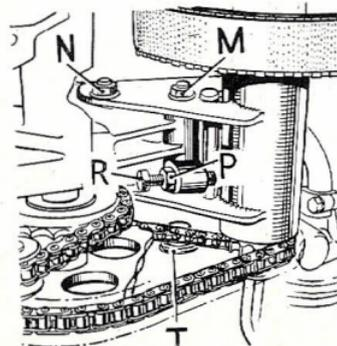

FIG. 6.
**Driving Chain:**—The slackness in the chain can be gauged with the fingers following removal of the rubber inspection cap (*T*) in the chaincase wall. To remove excessive slackness in the chain, first remove the outer chaincase cover, then slacken the pivot nut (*N*) and securing nut (*M*). Slacken the adjuster lock-nut (*P*) and then screw inwards the adjuster bolt (*R*) Fig. 6 (*i.e.*, turn clockwise). Total up and down play in the chain should be approximately  $\frac{3}{8}$ " (9.5 mm.). Retighten the securing nuts firmly. Thoroughly lubricate the chain at intervals of three months, or 800 miles, with Mobilplex Special.